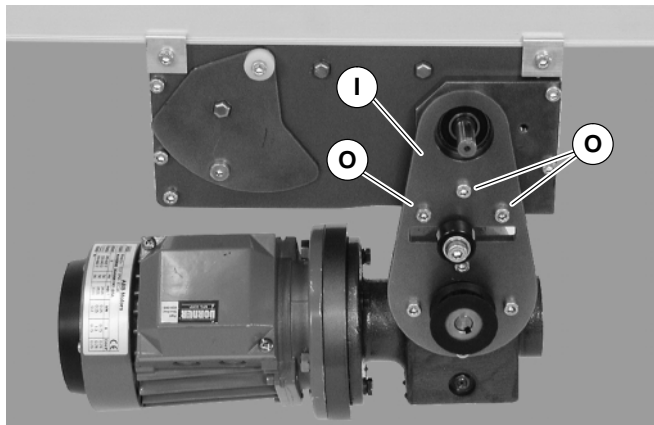

Figure 7
4. Attach mount assembly (I of Figure 7) with mounting screws (O). Install long screws on bottom. Tighten screws to 9 Nm.